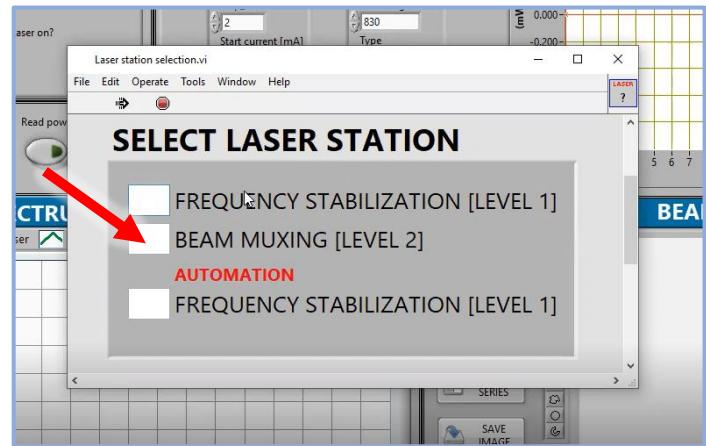

Figure 32 - Computer Application for LIV Test
- 10.2.4.3 Select 'Beam Muxing [Level 2]' from the popup window. See Figure 32.